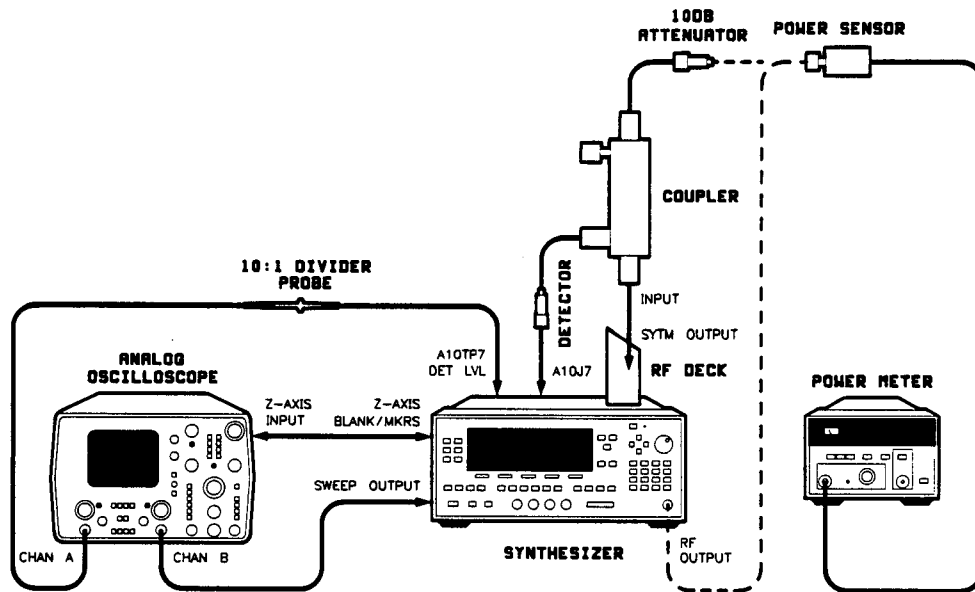

Figure 3-18. SYTM Adjustments Setup
1. Connect the equipment as shown in figure 3-18 with the RF deck installed on an extender board. Use the extender board and extender cable provided in the service kit and see "DISASSEMBLY AND REPLACEMENT PROCEDURES" in the *Assembly-Level Repair* manual for instructions. Disconnect the semi-rigid cable W56 between the A28 SYTM and the A33 Amplifier/Switch (you will need to loosen A33 in order to remove W56). Do not connect the power meter yet. Power on all the instruments and let them warm up for at least one hour.